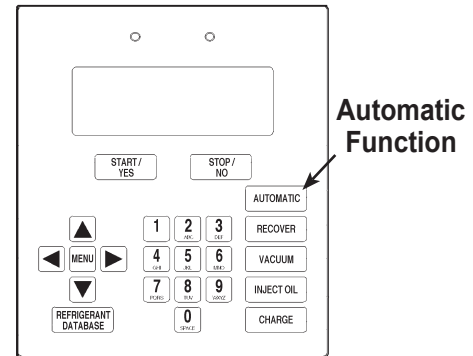

Figure 9
2. Press the **AUTOMATIC** button. See Figure 9.